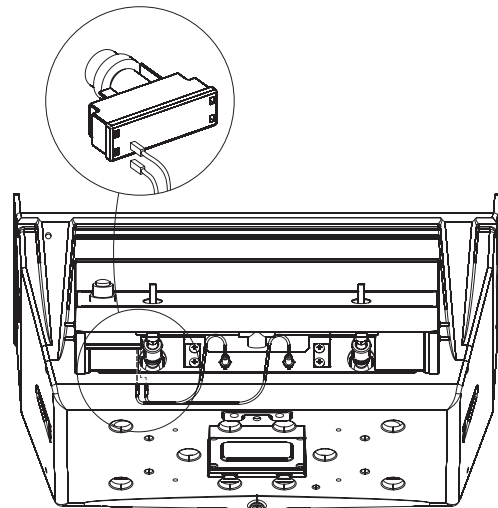

Figure 26
- Remove ignitor from the control panel by unscrewing the ignitor button and nut. Attach ignitor wires to terminals on the ignitor. **See Figure 26.**